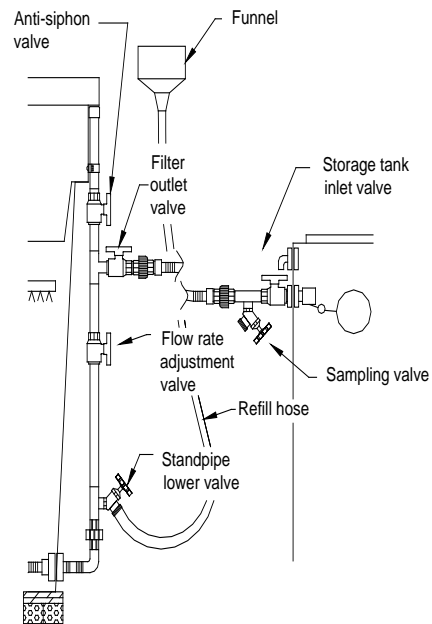

Figure 12-1
**Step 1.** Attach the refill hose to the lower valve on the filter standpipe. Insert a funnel into the end of the hose and hold it above the filter. Pour water into the funnel, allowing water to fill the filter from the bottom (figure 12-1).